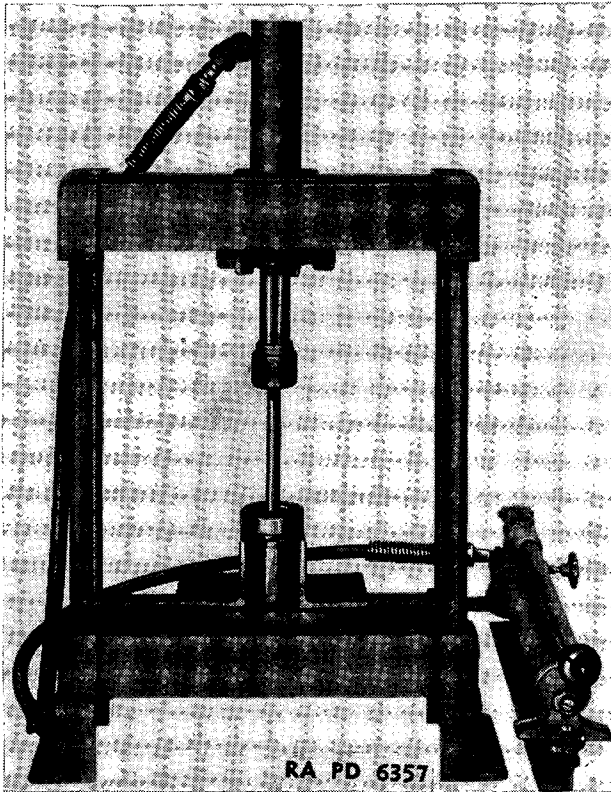

FIGURE 130.—Pressing front bearing off mainshaft.
(2) Remove mainshaft front pilot bearing—press. Set up in press and remove bearing (B184339) (fig. 130).
a. Cleaning bearings.—(1) Place all shaft roller and ball bearings into cleaning fluid and allow them to remain long enough to loosen old grease and lubricant.